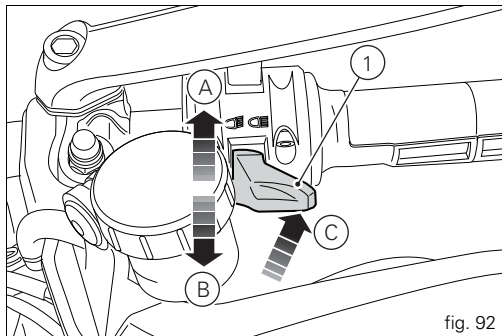

fig. 92
- 1) Dip switch, light dip switch, two positions (fig. 92):